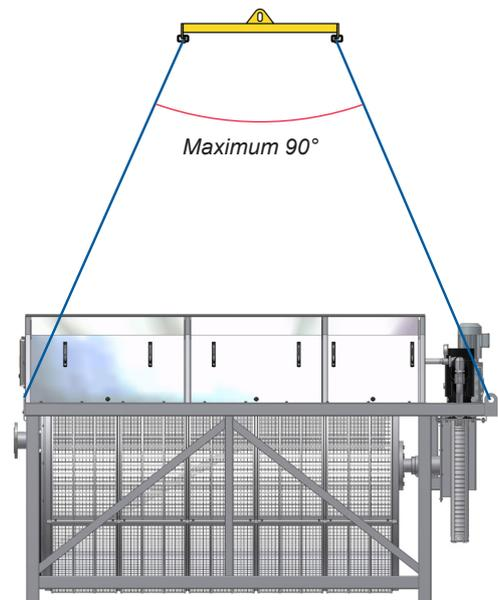

Figure 3.3 Lifting points for filters without tank (type 2/3)
- Unpacked filters without tank (type 2 & 3) can be lifted using a crane or overhead gantry, and straps. The straps should be positioned as shown in *Figure 3.3*.